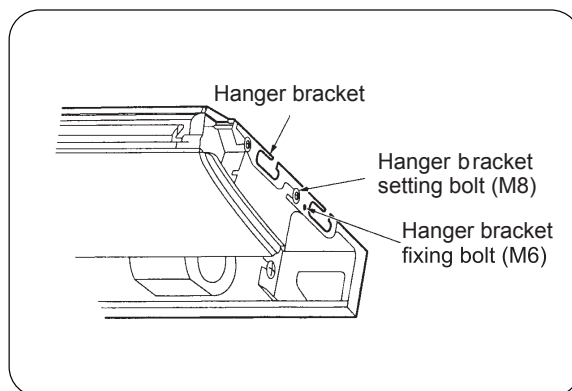

Fig.5
- (4) Loosen two hanger bracket setting bolts (M8) on each side for less than 10mm. Remove two hanger bracket fixing bolts (M6) on the rear side. Detach the hanger bracket by pulling backward (Refer to Fig.5)
(8) Screw tightly both hanger bracket setting bolts(M8).(Refer to Fig.5)
(9) Screw tightly both hanger bracket fixing bolts (M6) to prevent the movement of the unit(Refer to Fig.5)